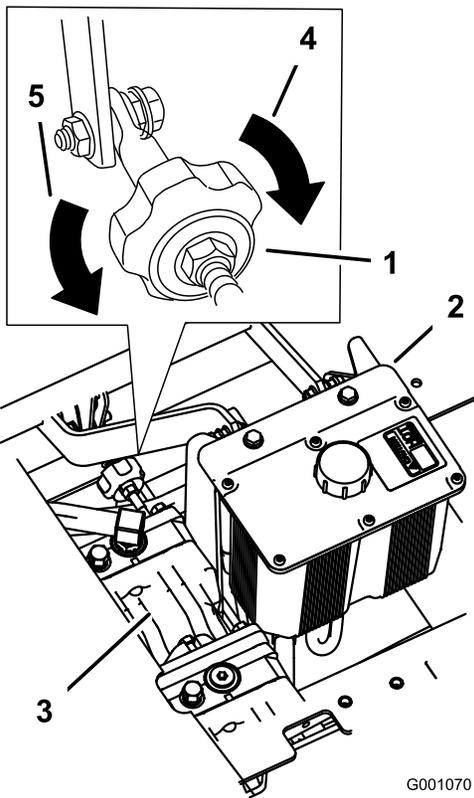

Figure 73
- If the machine tracks to the right, turn the knob toward the left of the machine; refer to Figure 73.
- If the machine tracks to the left, turn the knob toward the right of the machine; refer to Figure 73.